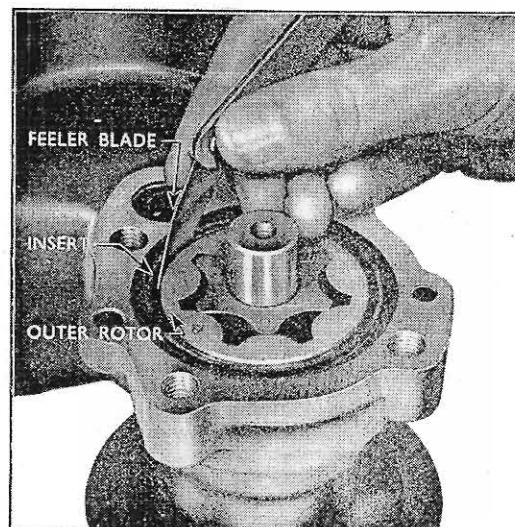

Fig. 15
7. Again using feeler gauges check the clearance between the outer rotor and the insert in the pump body. (See Fig. 15.) Renew the pump body and rotor assembly as necessary if the clearance exceeds .006 ins. (.15 mm.).